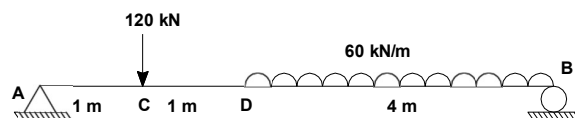

Figure-2
- (c) Calculate support reactions for the beam shown in Figure-2. Also plot Bending Moment and Shear Force diagrams showing values at important locations. 07
- (c) Calculate support reactions for the beam shown in Figure-2. Also obtain the location of maximum Bending Moment, Maximum Bending Moment and Maximum Shear Force in the beam.
- (c) Calculate the bending stress at point 'C' for the beam shown in Figure-2. 07